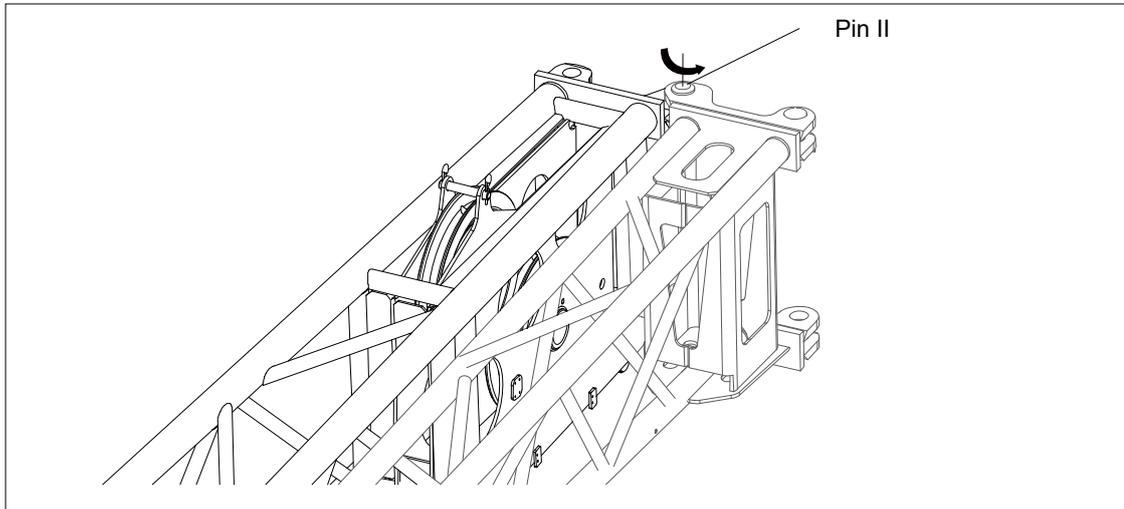

Figure 5-11 Jib section 2 rotation
- m) The jib section 2 rotates from pin II to the jib section 1 right ahead. Refer to Figure 5-11.